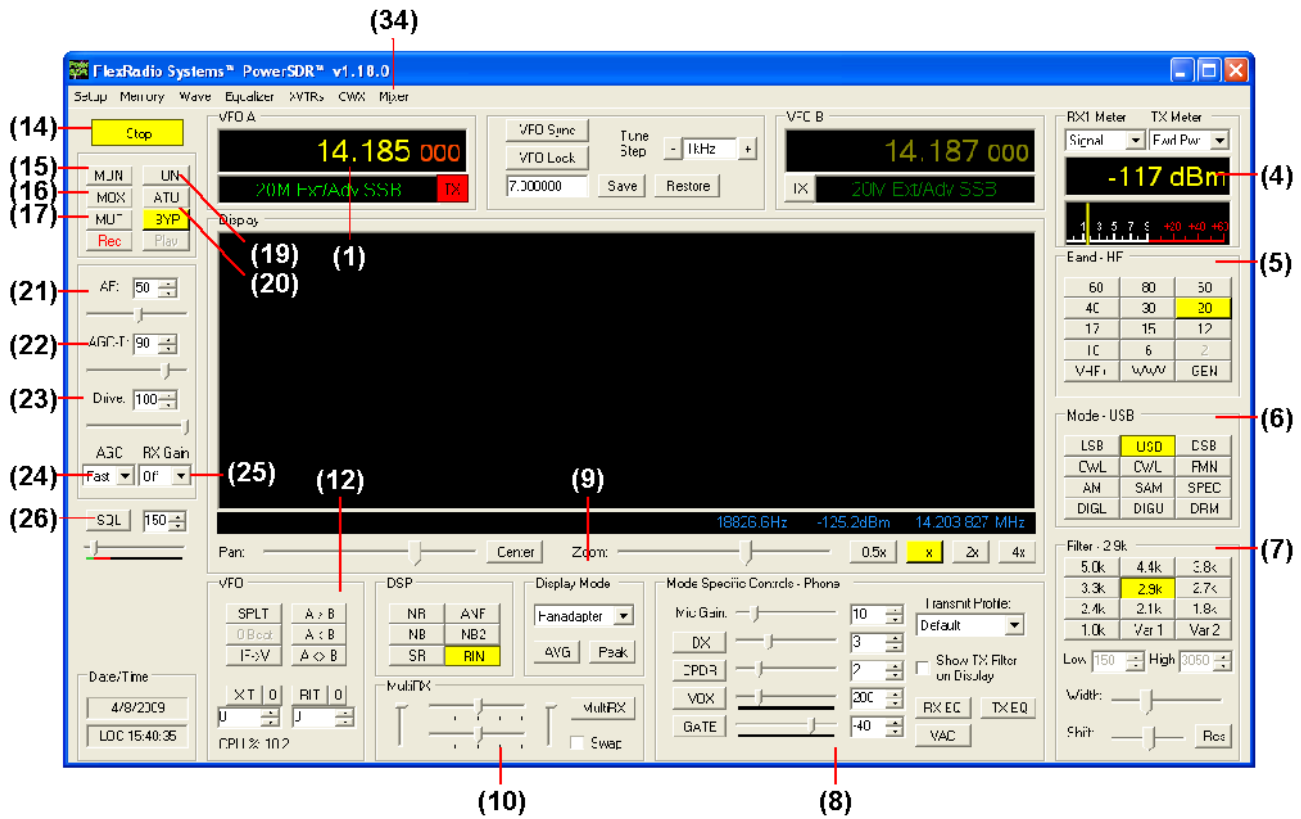
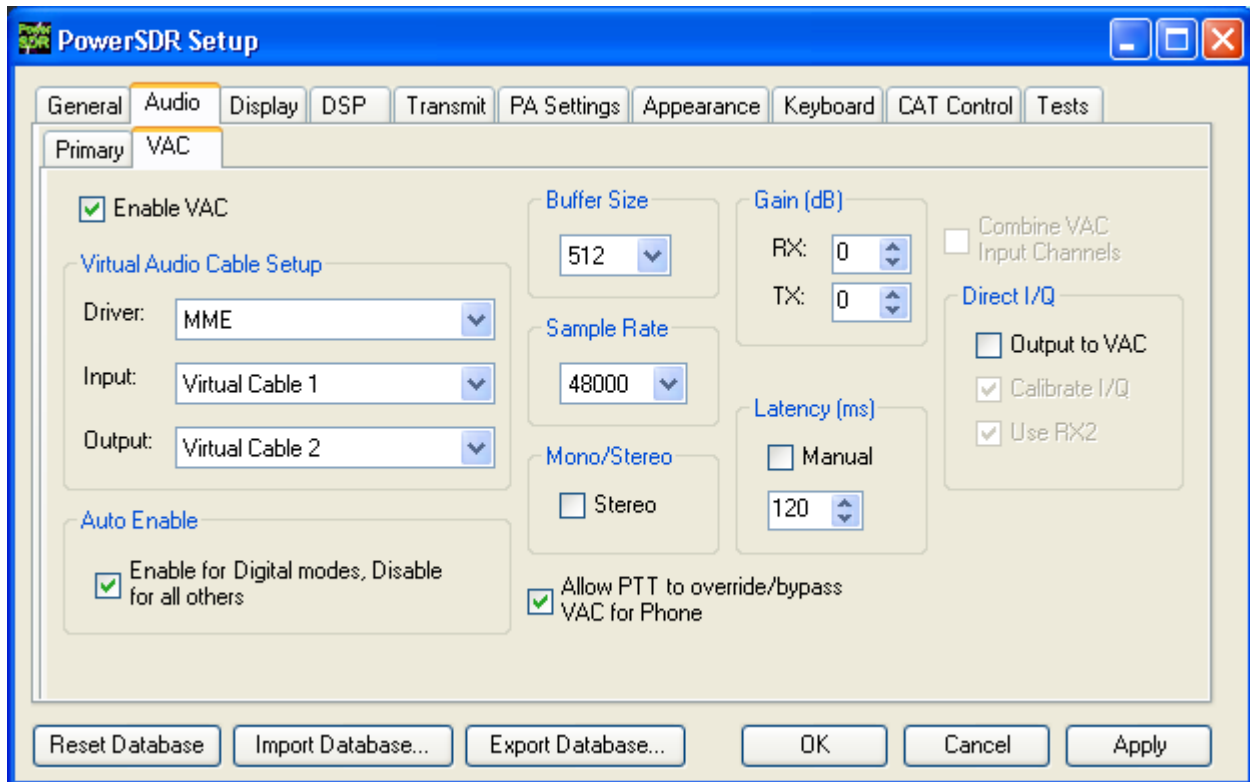
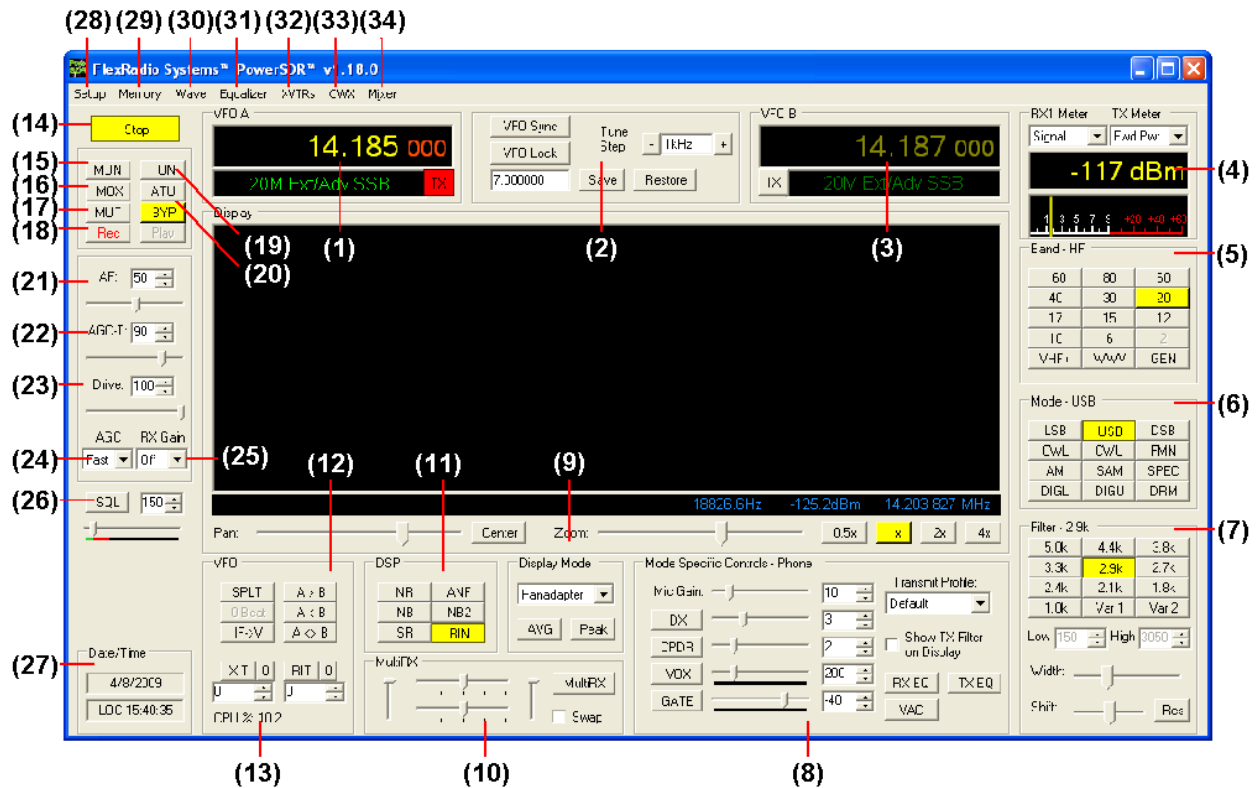

Figure 42: Front Panel Controls Used for Basic Digital Mode Operation
Figure 43: Setup Form - Audio Tab ,VAC Sub-Tab
Figure 44: FLEX-3000 PowerSDR 1.18.0 Front Console
Please use Figure 42 to identify the controls referenced in the following step-by-step instruction. For consistency we have used the same control identifiers as in Figure 44 on page 59 and for clarity we have left out any identifiers of controls not referenced.
2. In PowerSDR open the **Setup** Form, **Audio** tab and then the **VAC** sub-tab (see Figure 43 below). Check **Enable VAC**, Select *Virtual Cable 1* as the **Input** and *Virtual Cable 2* as the **Output**. If your digital mode software requires a stereo connection, check **Stereo**. To automatically enable VAC for **DIGU**, **DIGL** and **DRM (6)** modes, check **Auto Enable**. When operating these modes, the Front Console also shows several controls relating to VAC (8), as shown in Figure 42 above).